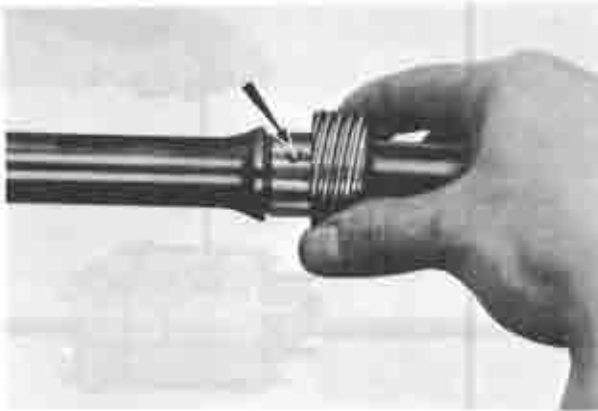

Fig. 7-30 Installing speedometer drive gear
36. Install the speedometer drive gear with the steel ball onto the main shaft, as shown in Fig. 7-30, and secure it with the snap ring.